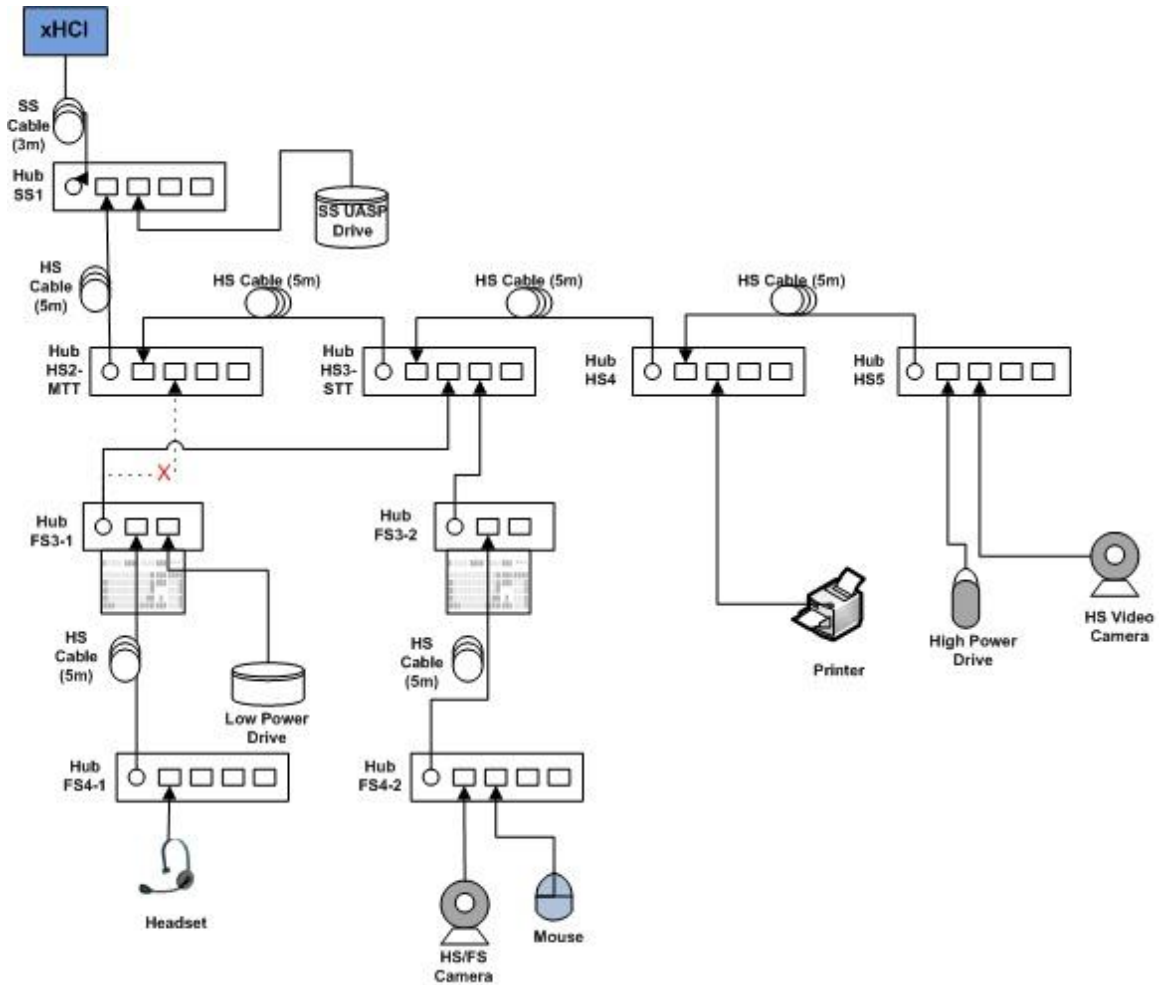

Figure 1.6.2: Topology Change 2
- While operating the devices, reattach Keyboard Hub FS3-1 to port 2 on Hub HS3-STT as shown in Figure 1.6.2.